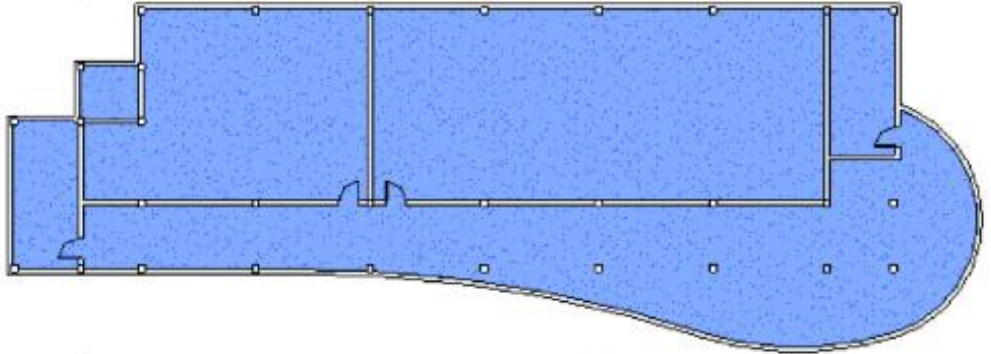

Figure 9–11
9. When the alert box opens, click **Yes**. The floor pattern displays as shown in Figure 9–11.